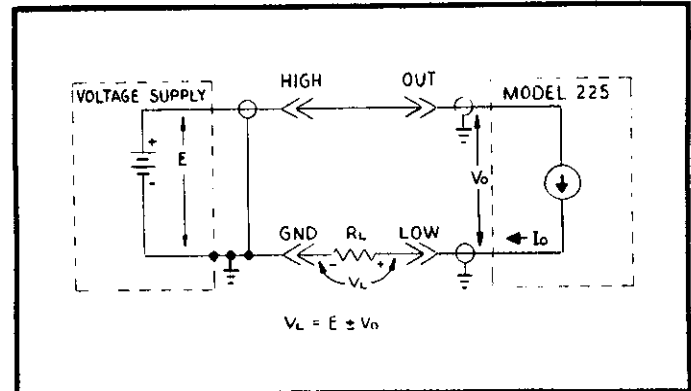

FIGURE 9. Floating Supply.
f. Floating Operation. The instrument can be floated up to ± 500 volts off chassis ground with less than 5 ppm of full range change in output current per volt off ground. For floating operation, the shorting link on the rear panel must be removed. In this case, two coaxial cables should be used to connect to output high and low. The outer shell of the front panel OUT and LOW receptacles are always at chassis ground for safety when floating the instrument. A filter capacitor C217 (.05 μ F) is connected between the LOW and GROUND binding posts to minimize line frequency pickup. The LOW to GROUND isolation is approximately 10^7 ohms. A typical example of floating operation is shown in Figure 9. In this example, the Model 225 can be used with a voltage supply such as Keithley Model 240A to extend the maximum compliance voltage to +600 volts. The Model 225 can be adjusted for a compliance voltage of +500 +100 volts dc. The maximum current is 10 milliamperes (for the Model 240A).